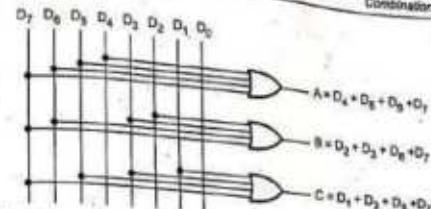

Fig. 4.13.7 Octal to binary encoder
- Fig. 4.13.7 shows octal to binary encoder. It has eight inputs, one for each octal digit, and three outputs that generate the corresponding binary code.